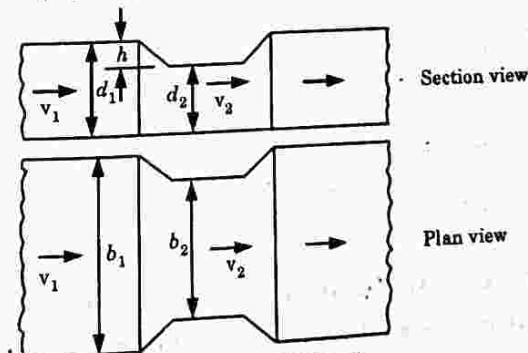

Fig. 2.23.2. Venturi flume.
1. The width of the channel b_1 is reduced to b_2 to create a throat section. Higher velocity at the throat results in a drop of the depth of the liquid as shown in Fig. 2.23.2.